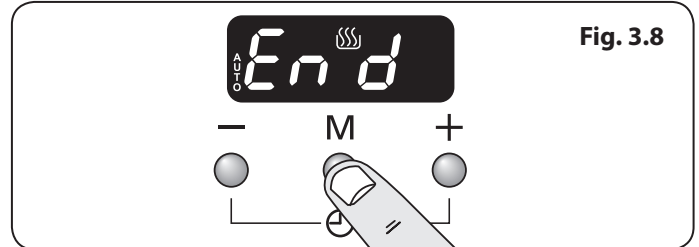
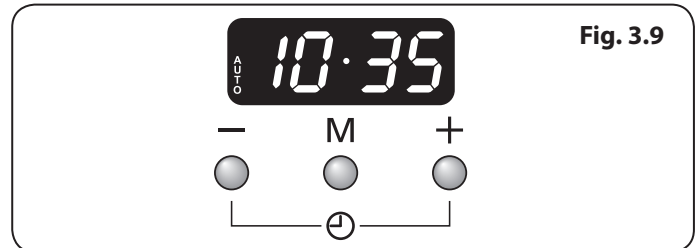

Fig. 3.8
Fig. 3.9
2. Press the mode [M] button until the display flashes 'End' (Fig. 3.8). Then set the 'stop time' using the [+] or [-] buttons. Current time will be displayed along with the word 'AUTO' (Fig. 3.9).